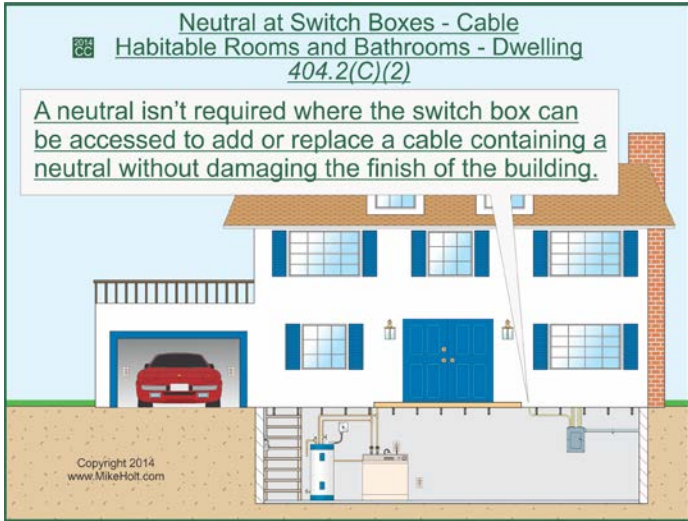

Figure 404-7
- (2) Where the switch box can be accessed to add or replace a cable containing a neutral without damaging the finish of the building. Figure 404-7
- (3) Snap switches with integral enclosures [300.15(E)].
- (4) Nonhabitable rooms and bathrooms.